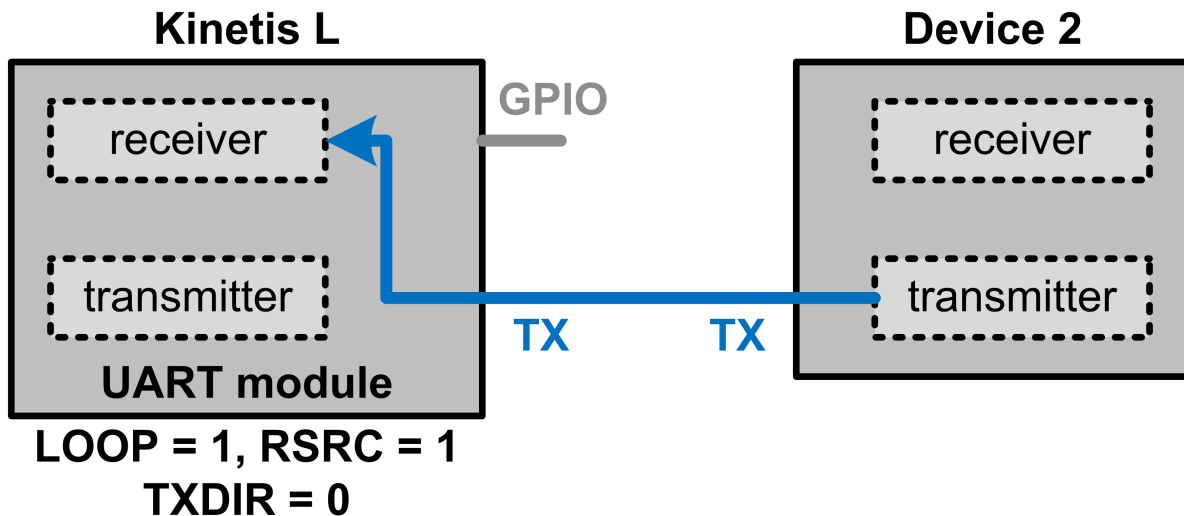

Figure 8-3. Block diagram of single wire mode (TXDIR disabled)
- When the direction field, `UARTx_C3[TXDIR] = 0`, then the TxD pin represents input of receiver. Hence, external device can only send data to receiver (Figure 8-3). The transmitter is temporarily disabled in this case.